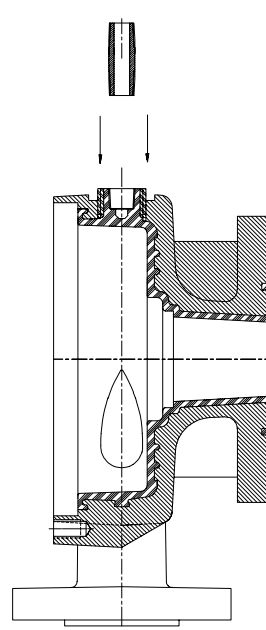

Figure 9-2: Insert pipe nipple
- 1 Loosen and remove the supplied drain plug with a 3/4" wrench. To protect the molded threads while drilling tighten a 1/4" pipe nipple to the drain hole (Figure 9-2).